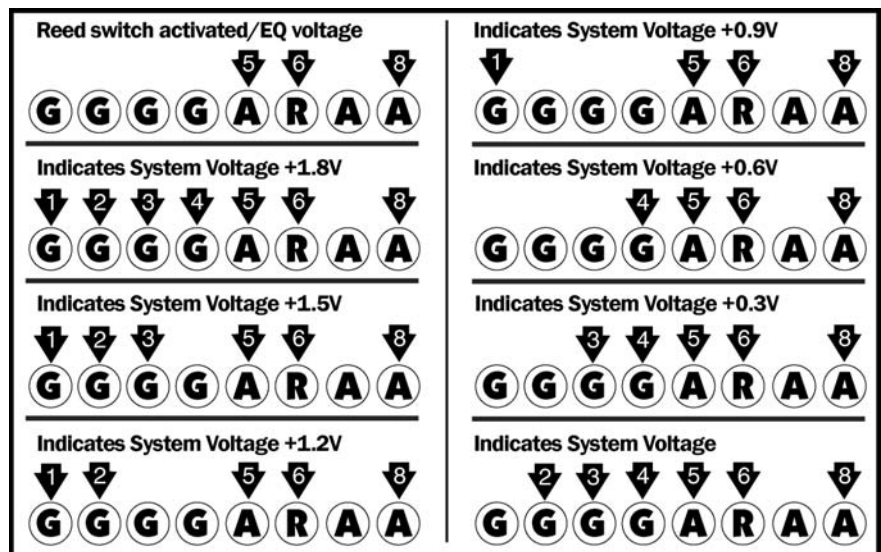

Figure 17 - LED display indicating advanced EQ voltage adjustment.
1. When the LED indicates entry into the EQ Voltage mode, as shown in **Figure 17**, ACTIVATE-HOLD the switch with your magnet. The display will show system voltage. When you activate the switch, the display will scroll up through the voltage values shown in **Figure 17**. Reversing the process will scroll downward.